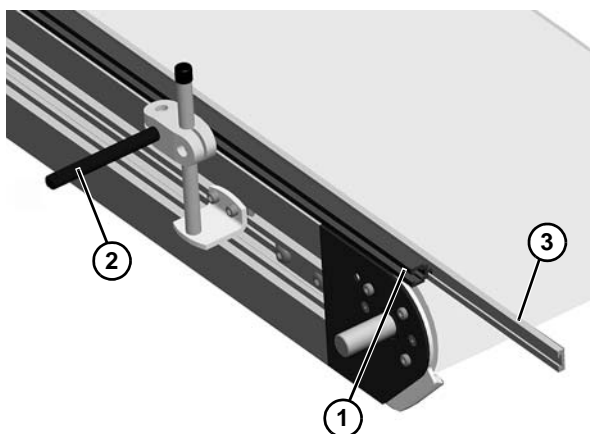

Figure 36
3. Straight Sections: Install extruded guide (**Figure 36, item 1**) onto end of mounting guide shaft (**Figure 36, item 2**).
4. Install guiding (**Figure 36, item 3**) onto extruded guide (**Figure 36, item 1**).